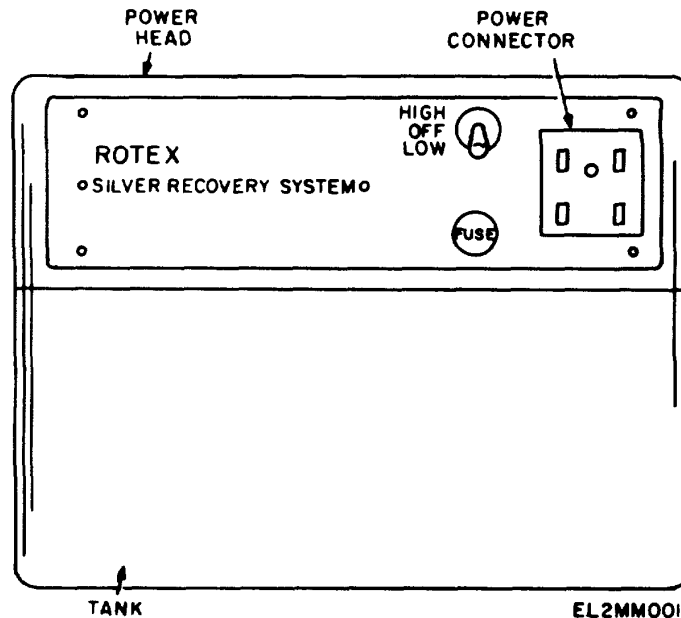

Figure 2-17. Silver recovery unit.
- (1) Operate the space heater continuously.
- (2) Dry the equipment thoroughly before operating it.
(3) Drain the water supply system when the space heater is not in use.
(4) Store the chemicals in a warm place.
(5) Operate the immersion heater in the sink and melt snow to provide water for the water tank if required.
b. Lift off the power head of the silver recovery unit (fig. 2-17) and fill the tank to approximately 1-inch of the top with exhausted fixer solution.